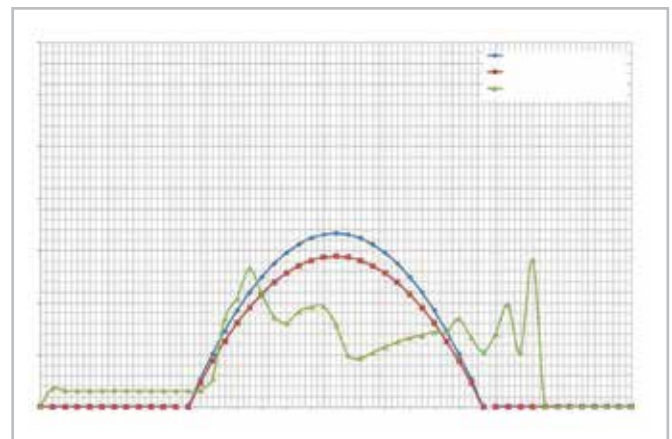

Figure 8 Lift daily energy requirement balanced with PV daily energy on 22 Jun at equator
Considering that the lift power requirements don't correspond to the available Sun energy periods (e.g. day-night) the buffering battery bank is proposed. In this scenario the battery is sized for charging from photovoltaics (PV) solar panels to cover the daily lift energy requirement. The minimum required battery size for daily operations is estimated at 79 [kWh] based on the data shown in Fig. 8 (assuming 100% capacity margin for a "cloudy" day). It should be noted that the lift power requirement is related to the unit area (1m²) of PV panels.
The diagram in Fig. 8 presents the comparison of the Sun's available energy on the minimum energy day (area below the red line) with the lift's daily energy requirement (area below the purple line) for locations near the Equator. Sizing PV panels for the minimum energy day is likely to result in a cheaper solution than sizing the PV panels between the blue and red lines and installing any seasonal energy fluctuation compensation device.
The required PV panels surface area for operations near the Equator is determined to be 51 m² assuming the PV conversion efficiency at 37%. The comparison of major component costs is provided in Table 2. There will be no need for the seasonal energy storage – see the maximum (blue) and minimum (red) irradiation curves in Fig. 8.